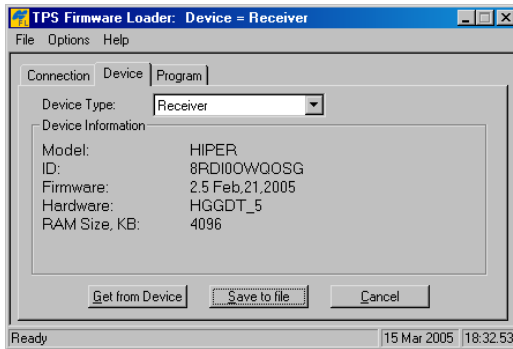

Figure 5-23. Get Device Type
1. In FLoader, click the **Device** tab, and set the *Device Type* as "Receiver." Click **Get from Device** for device information (Figure 5-23).